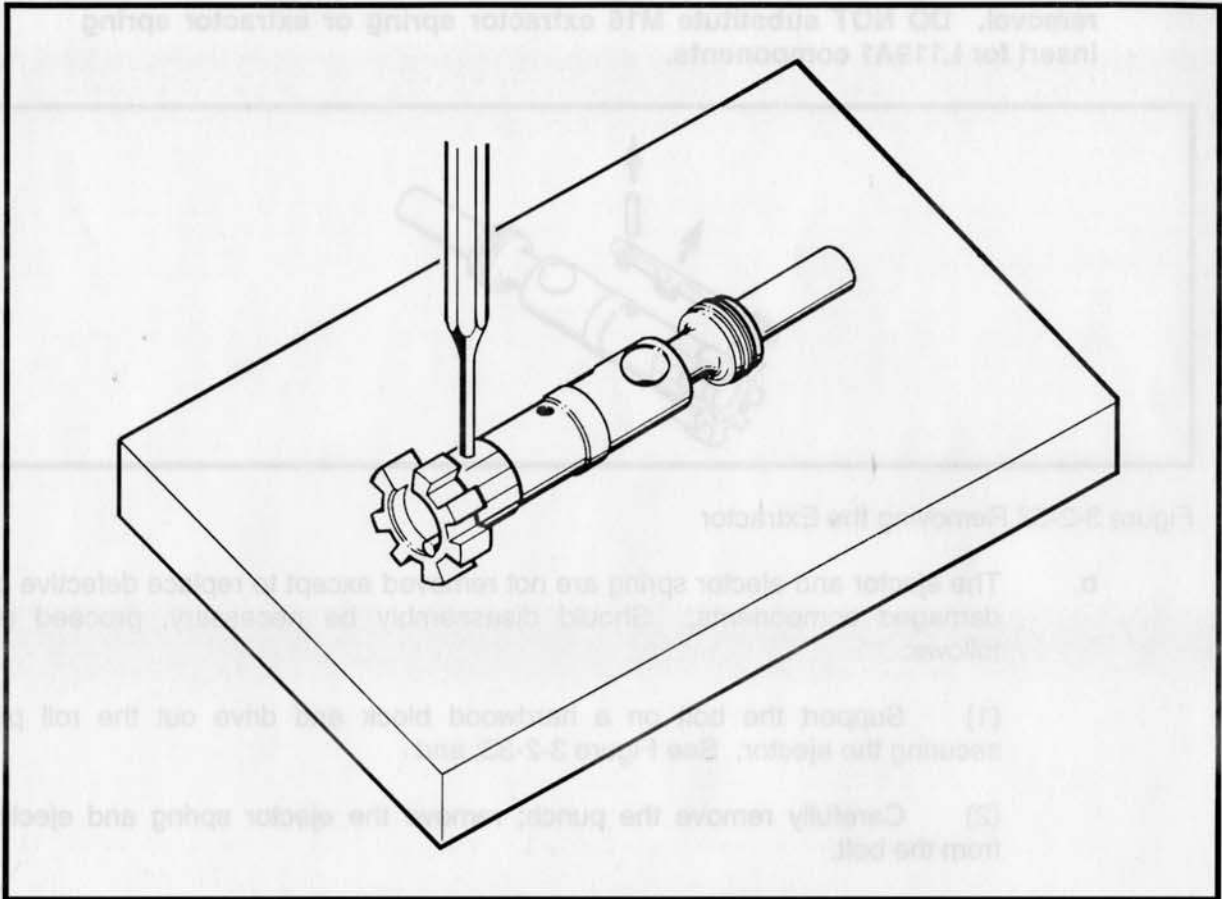

Figure 3-2-33 Removing the Ejector Pin
- (1) Support the bolt on a hardwood block and drive out the roll pin securing the ejector. See Figure 3-2-33; and
- (2) Carefully remove the punch; remove the ejector spring and ejector from the bolt.